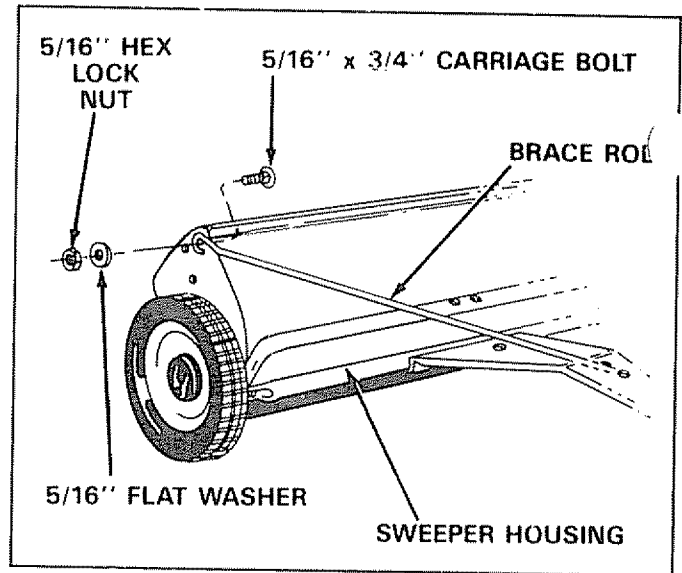

FIGURE 4
2. Attach the brace rod to the square hole in the sweeper housing, using two 5/16" x 3/4" carriage bolts (assembled with the heads on the inside of housing). Two 5/16" flat washers and 5/16" hex lock nuts are assembled outside as shown. See figures 4 and 5. **Do Not Tighten At This Time.**